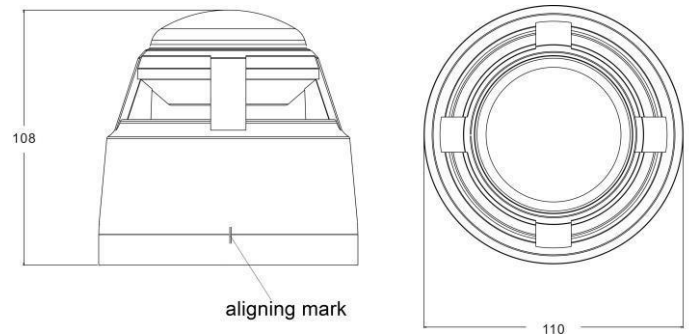

Fig.1
13. Dimension:  $\phi 110\text{mm} \times 108\text{mm}$  (with base), See Fig1.